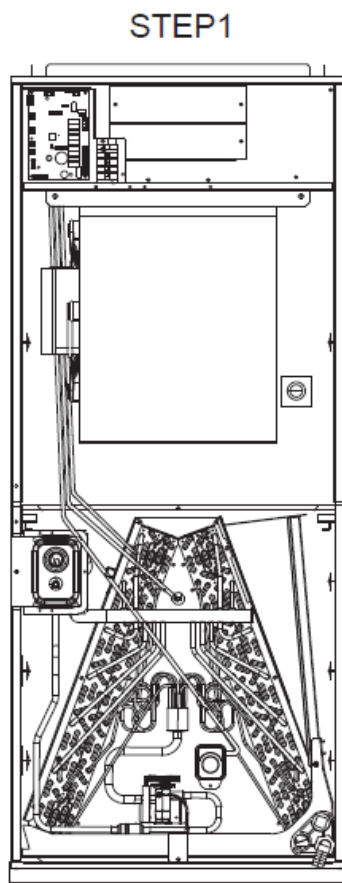

Figure 4.1
1. Remove the screws and the front panel, and disconnect the plug of T1 sensor 、 T2 sensor and leak detection sensor wire from the circuit board (Figure 4.1, Step 1).